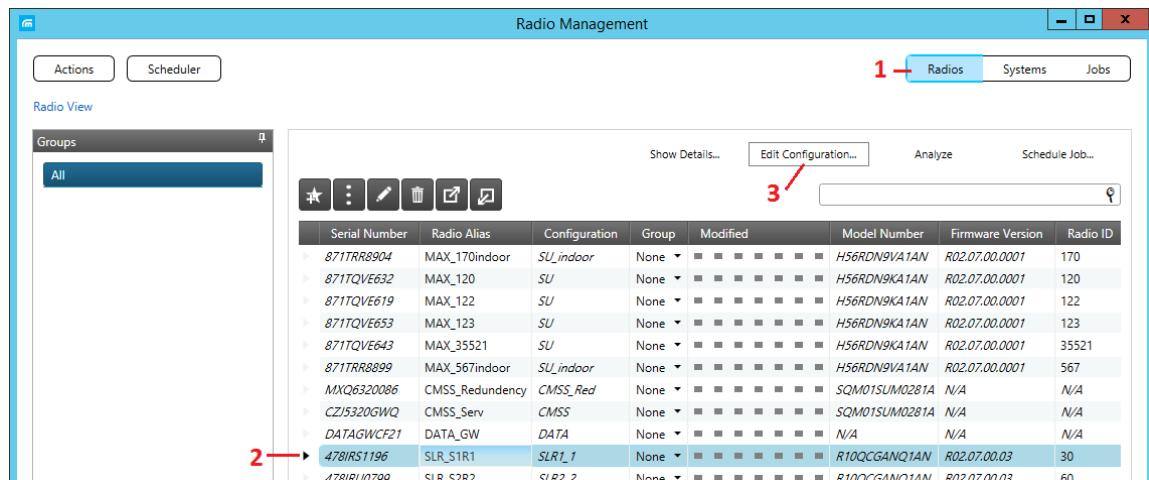

Figure 14: Opening the Capacity Max configuration on a repeater
1. Launch the Radio Management software. Click **Radios** (Figure 14, step 1).
2. In the right panel, click the arrow in front of an entry with the repeater configuration (Figure 14, step 2). Make sure that the whole line is selected.
3. Click the **Edit Configuration** button (Figure 14, step 3).